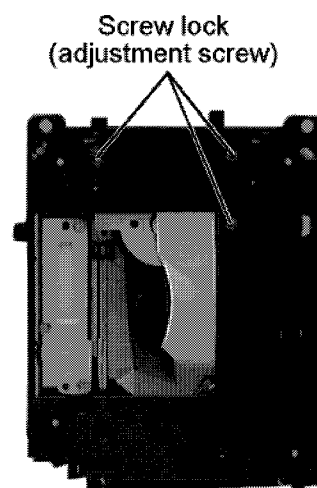

Fig. 17-2
2. Place the traverse unit upside down, and fasten the adjustment screws with a screw lock. <Fig. 17.2>